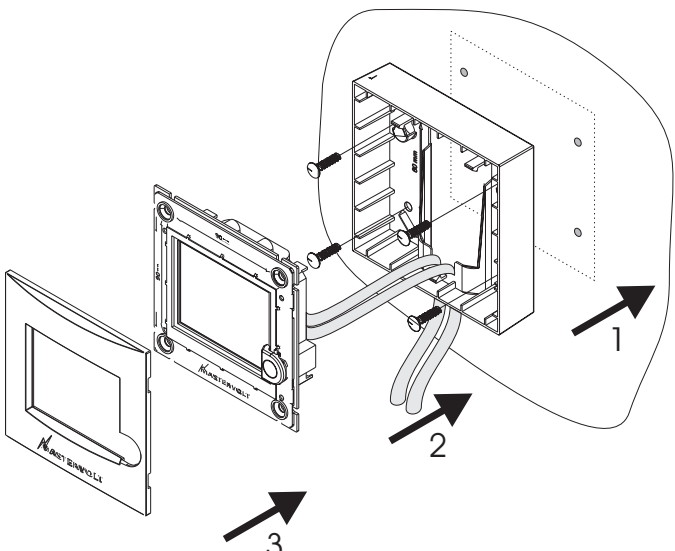

Figure 8
- Drill the holes using the dimensions inside the outer housing and fasten the outer housing (1).
- Insert the MasterBus connection cables into the MasterBus data ports and click the panel into the outer housing (2).
- Reattach the front (3), see figure 8.